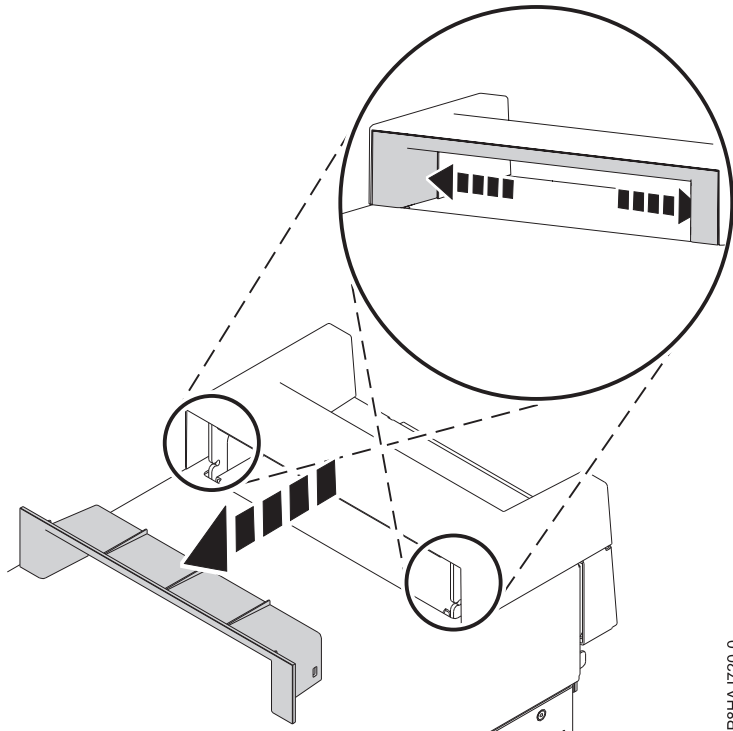

Figure 16. Removing the piece within the handle cover on an 8286-41A stand-alone system
1. Remove the plastic piece within the interior of the handle cover by pushing the latches on the inside firmly and sliding it out. See Figure 16 on page 36.